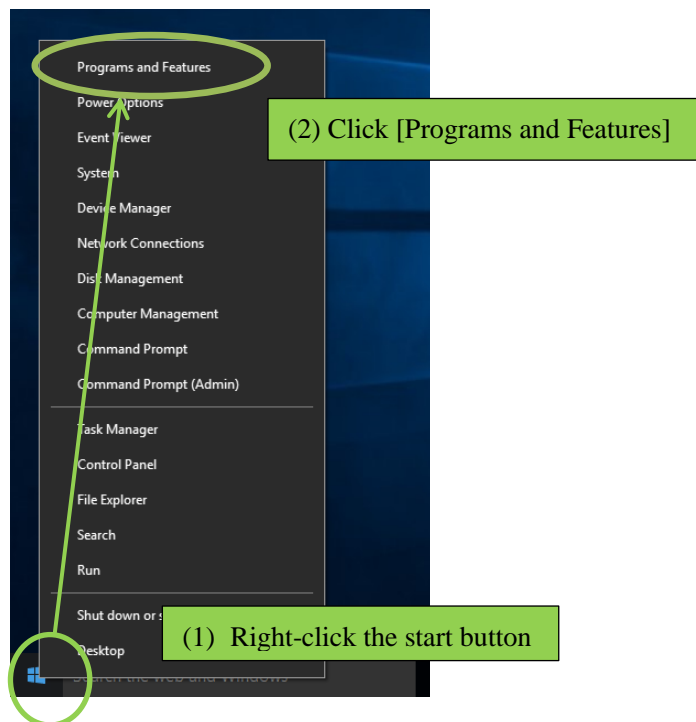

Figure 2.1 Select [Programs and Functions]
(1) Right-click the start button and select [Programs and Functions] from the displayed menu (Fig. 2.1).